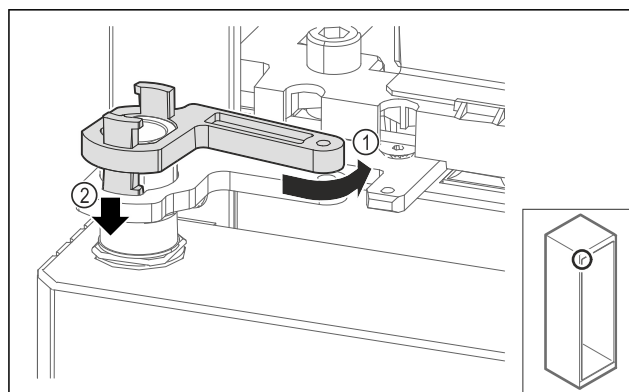

Fig. 63
- Turn the swap bearing block lock back slightly Fig. 63 (1), press it down Fig. 63 (2) and lock it at the hinge bracket.